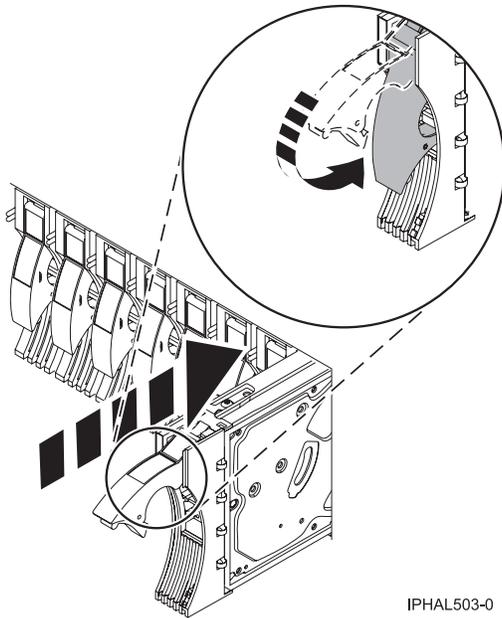

Figure 44. Installing a disk drive in a model or 11D/20
10. Slide the disk drive all the way into the system or expansion unit and then lock it in place by pushing in the disk drive handle, as shown in Figure 44 on page 44.